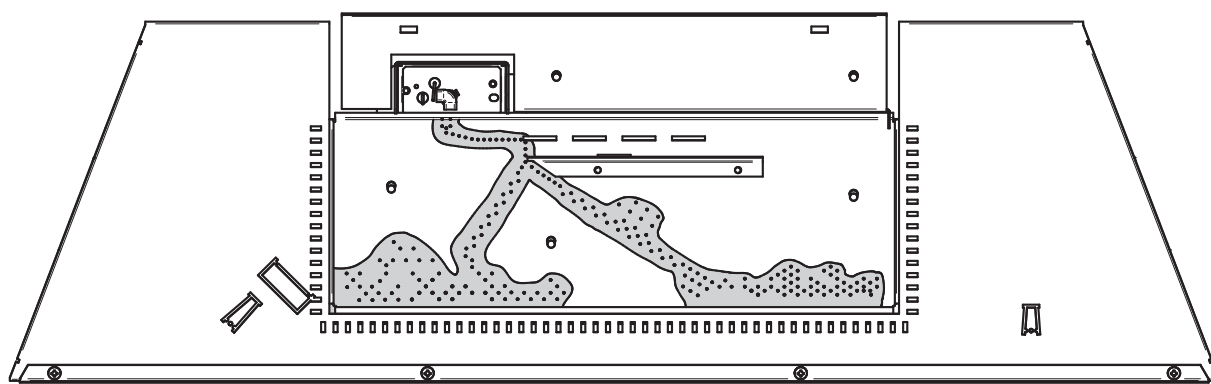

Figure 3: Allowed area for glowing wool placement
STEP 9: This completes the log set installation. Display the glowing wool in the designated areas as shown in figure 3 all around the circular ports. Use pieces not bigger than a 10 cent coin. Display the lava rocks in the designated areas as shown on figure 4. Reinstall the glass door and *Invisimesh* barrier as indicated in the fireplace manual.